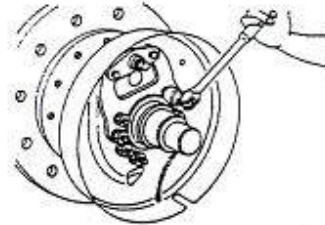

Fig. 2-23
(6) Take off the E-shaped retainer ring fixing the brake cable from the brake back plate. After that, remove the bolt on the back plate. Remove the brake back plate from the drive axle. See Fig. 2-23.